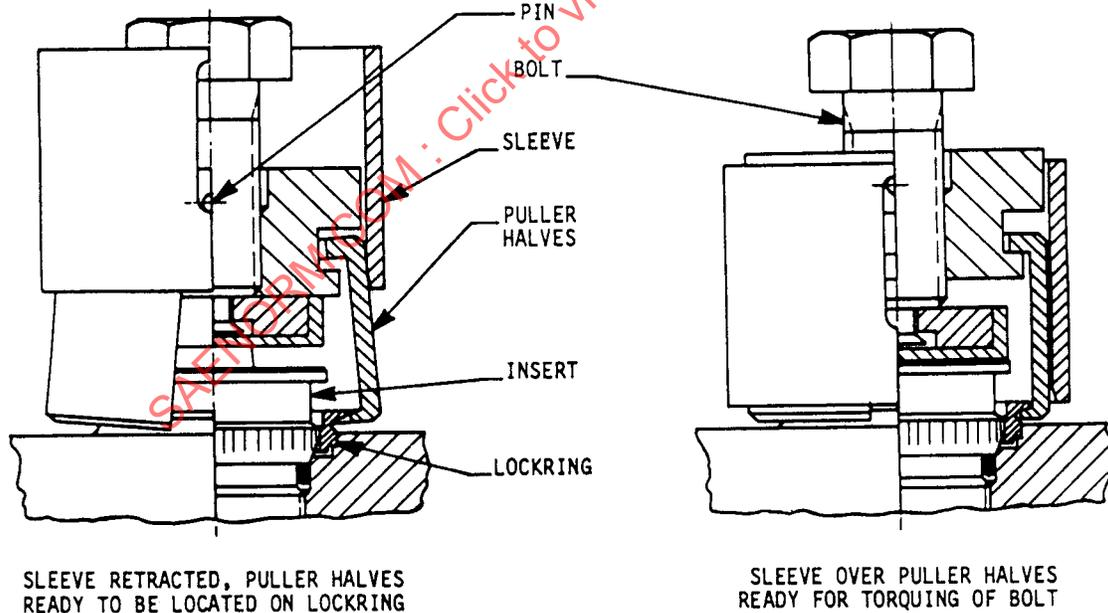

FIGURE 5
- 7.2.2 Spread the puller halves apart by retracting the sleeve from the tool until the pin bottoms in the groove of the sleeve (see Fig. 5). Holding the puller halves apart, place tool over protruding insert so the nylon pad rests on the top surface of the insert. Release the puller halves and locate in the groove of the lockring. Adjustment up or down is achieved by rotating the bolt head. Slide the sleeve over the puller halves and check for proper engagement of the puller halves in the locking groove.